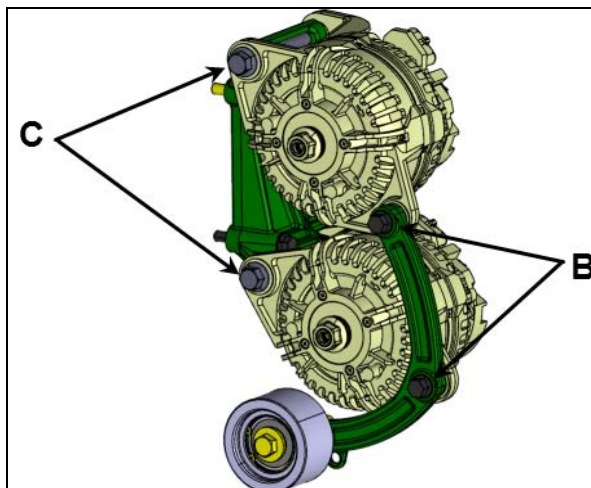

FIGURE 23
11. In order to assure proper installation, it is important to tighten the alternator mounting bolts in the following proper sequence. Use Loctite 243 blue on threads (FIGURE 23).